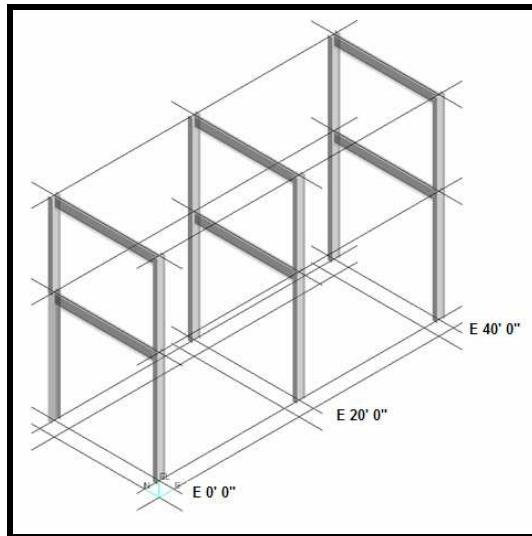

Figure 2 –Isometric View of the Structure U02
16. Re-establish all the relationship with East Plane location 20' 0" using the Paste dialog. See figure 2.